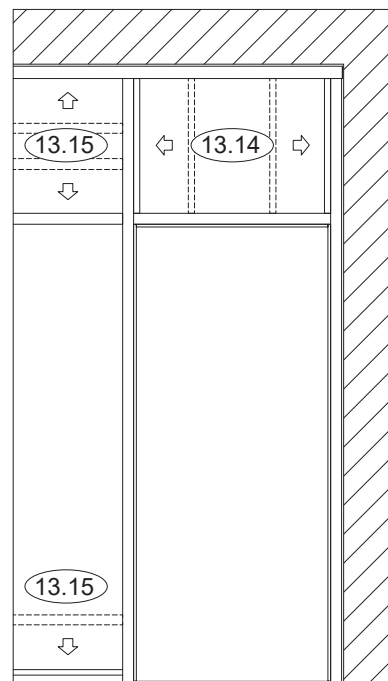

Figure 13.14
13.14: Install the vertical transom adaptors. See **Figure 13.14**.